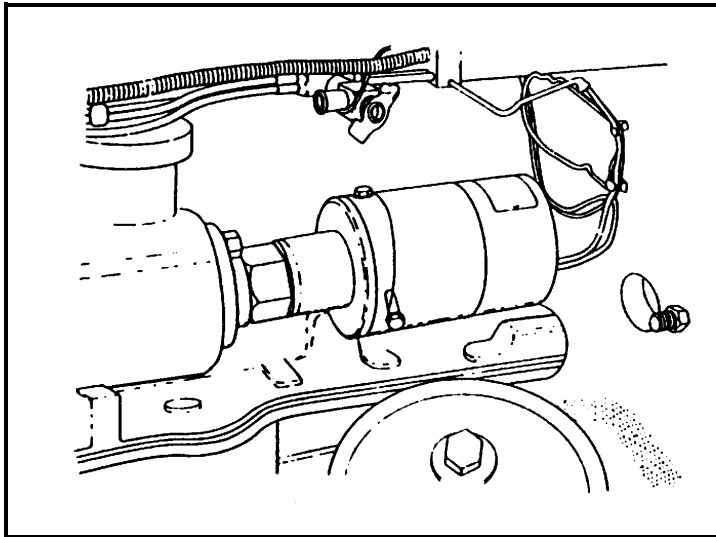

Figure 9-5. Overspeed safety device
The *coolant high-temperature indicator* (9) illuminates when the coolant temperature rises enough to actuate the coolant high-temperature safety device. The *overspeed indicator* (10) illuminates when the engine speed exceeds the rated rpm and the overspeed safety device (*Figure 9-5, page 9-5*) actuates. The *no-fuel indicator* (11) illuminates when the fuel in the tank is low enough to actuate the no-fuel protective device.